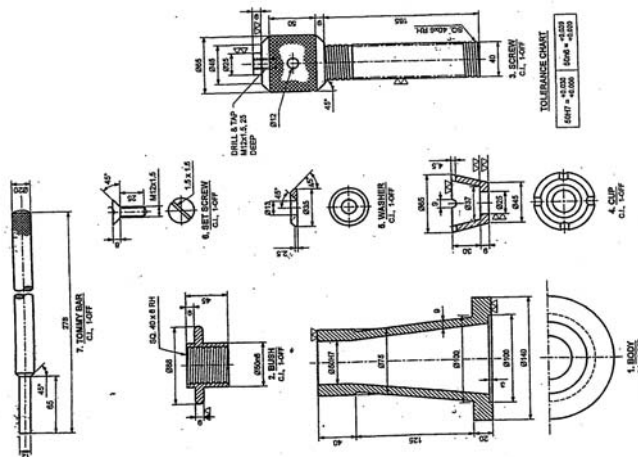

Fig. No. 04
- a) Fig. No. 04 shows details of screw jack. Draw sectional F.V. and T.V. of the assembly, prepare bill of material. Indicate type of fit.